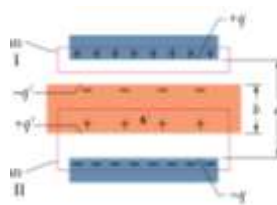

Figure 3
- For the arrangement of Fig. 3, suppose that the battery remains connected while the dielectric slab is being introduced. Calculate (a) the capacitance, (b) the charge on the capacitor plates, (c) the electric field in the gap, and (d) the electric field in the slab, after the slab is in place.